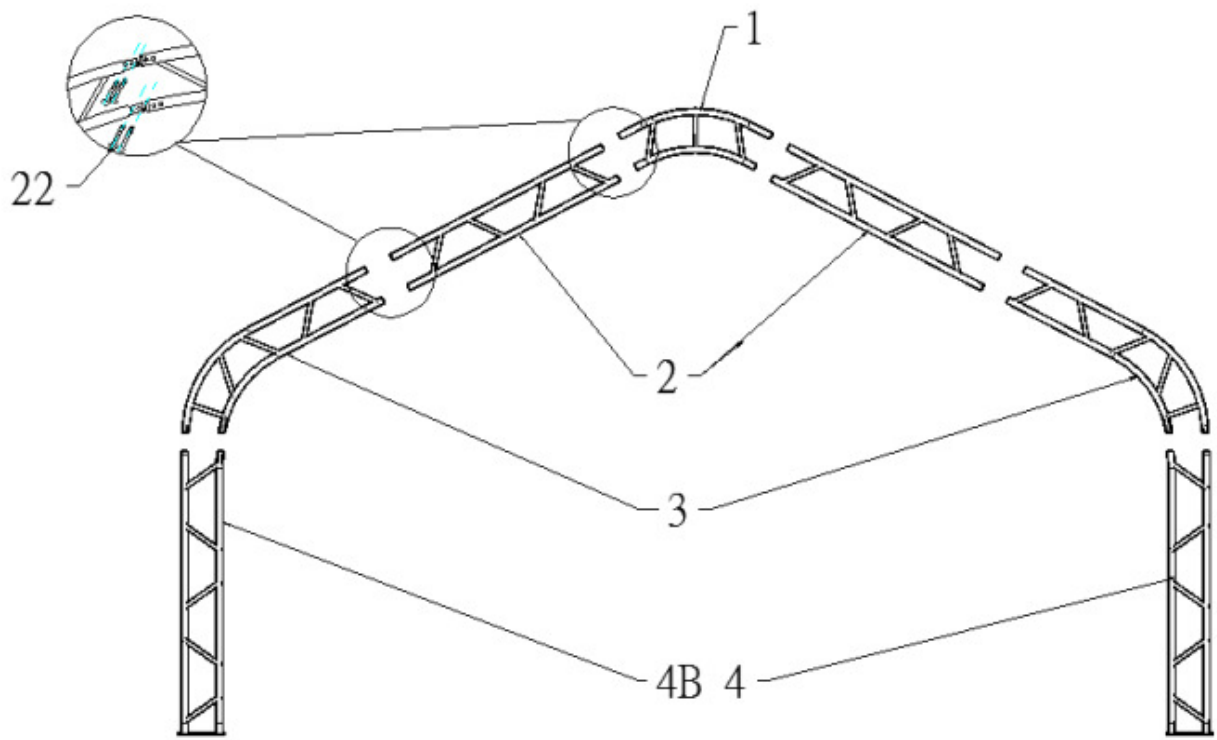
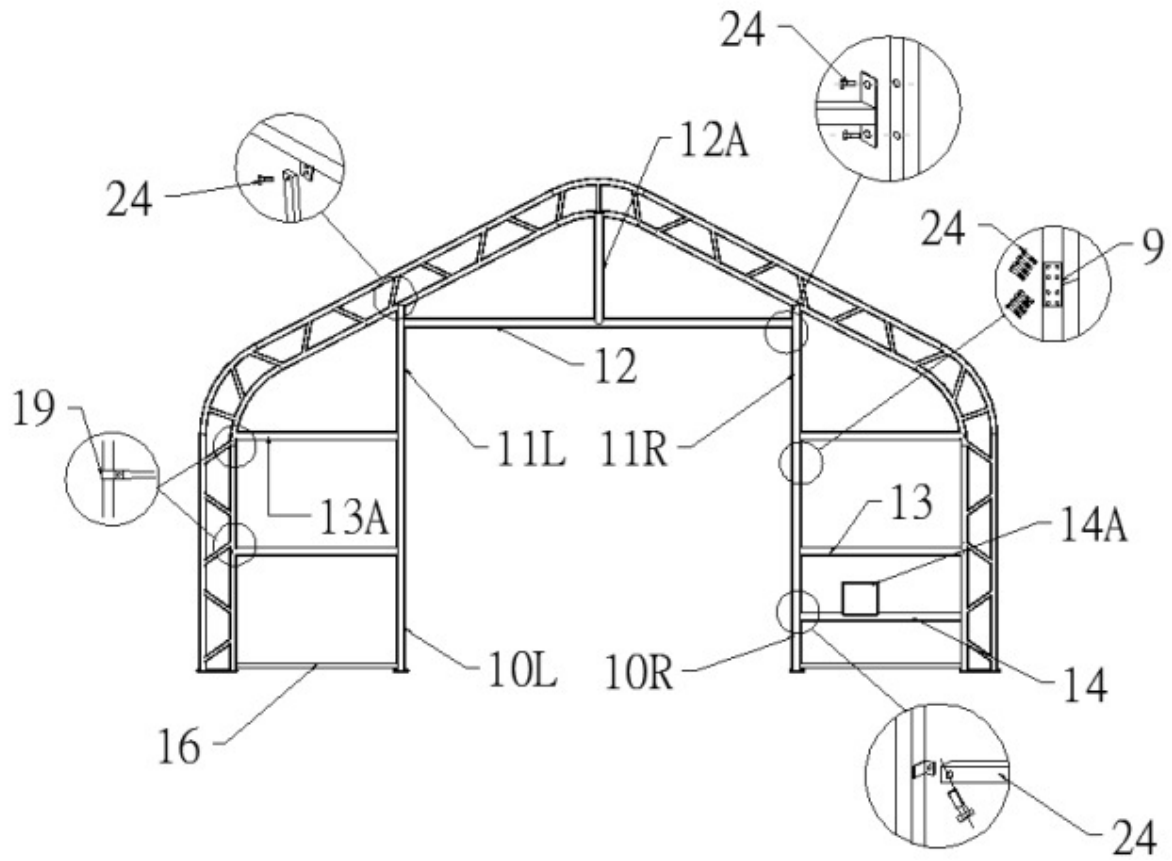

Figure 4 Front door frame
Figure 6: Front door
. Figure 4& 5 shows to install front and back door frame
1. Figure 6 shows to assembly the door frame according to Figure 4.